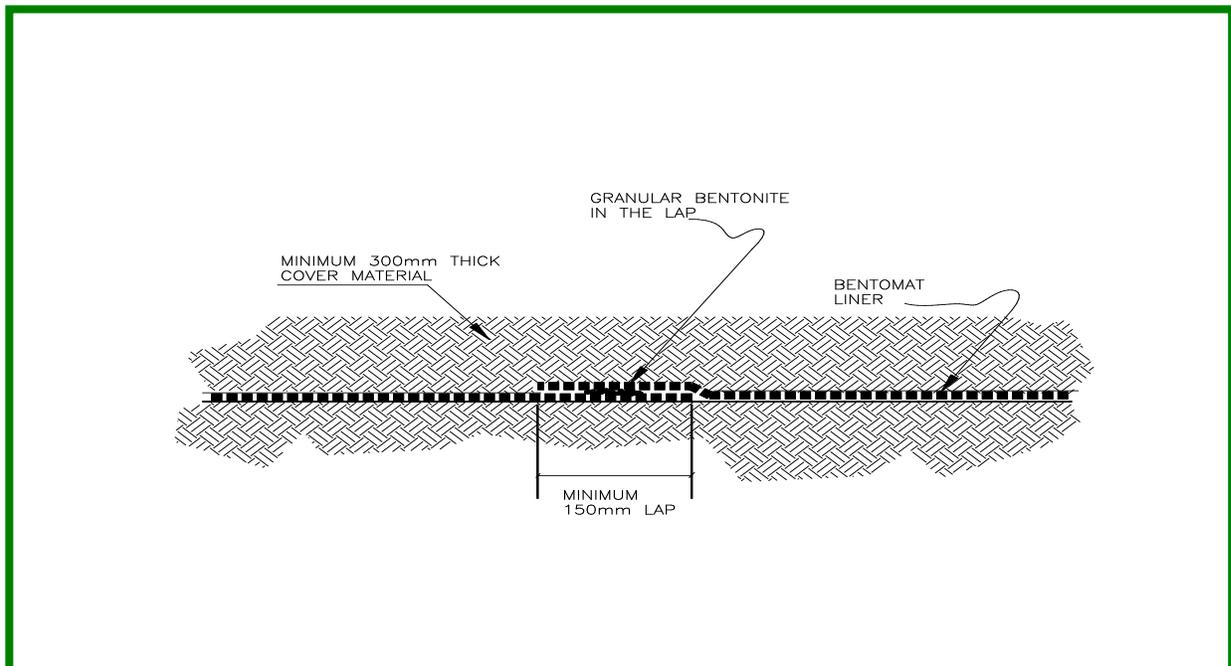

Figure 3. Bentonite-enhanced overlapped seam.
- 7.4 Bentonite-enhanced seams are constructed first by overlapping the adjacent panels as instructed previously, then exposing the underlying edge, and then applying a continuous bead or fillet of granular sodium bentonite (supplied with the GCL) along a zone defined by the edge of the underlying panel and the 150 mm line (Figure 3). The minimum application rate at which the bentonite is applied is 0.4 kg/m.